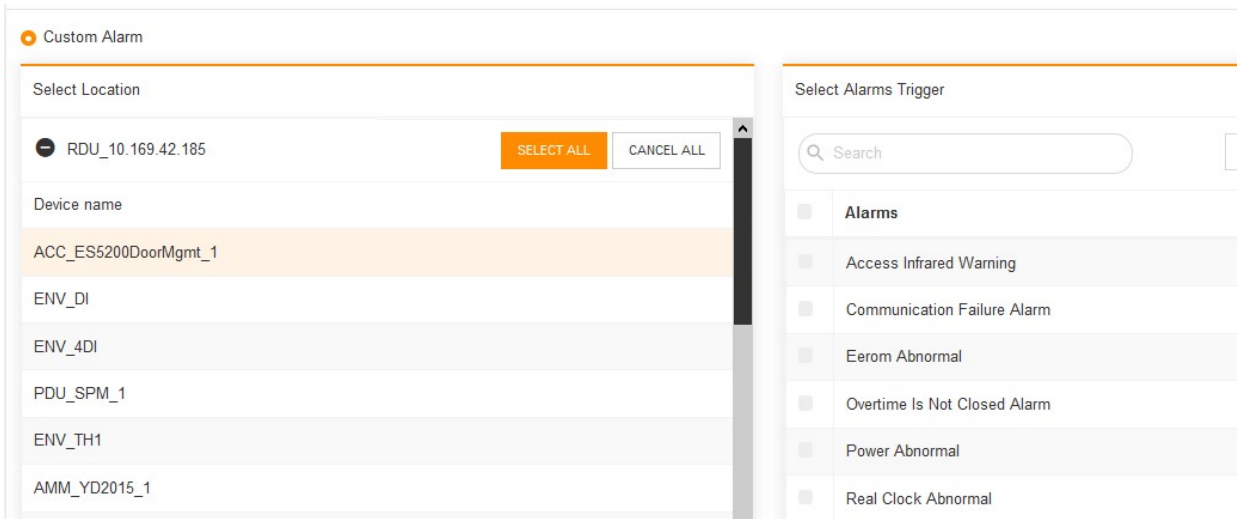

Figure 16-26 New rule page
1. On the **Automation Rules** page, click . The **New Rule** page is displayed, as shown in Figure 16-26.